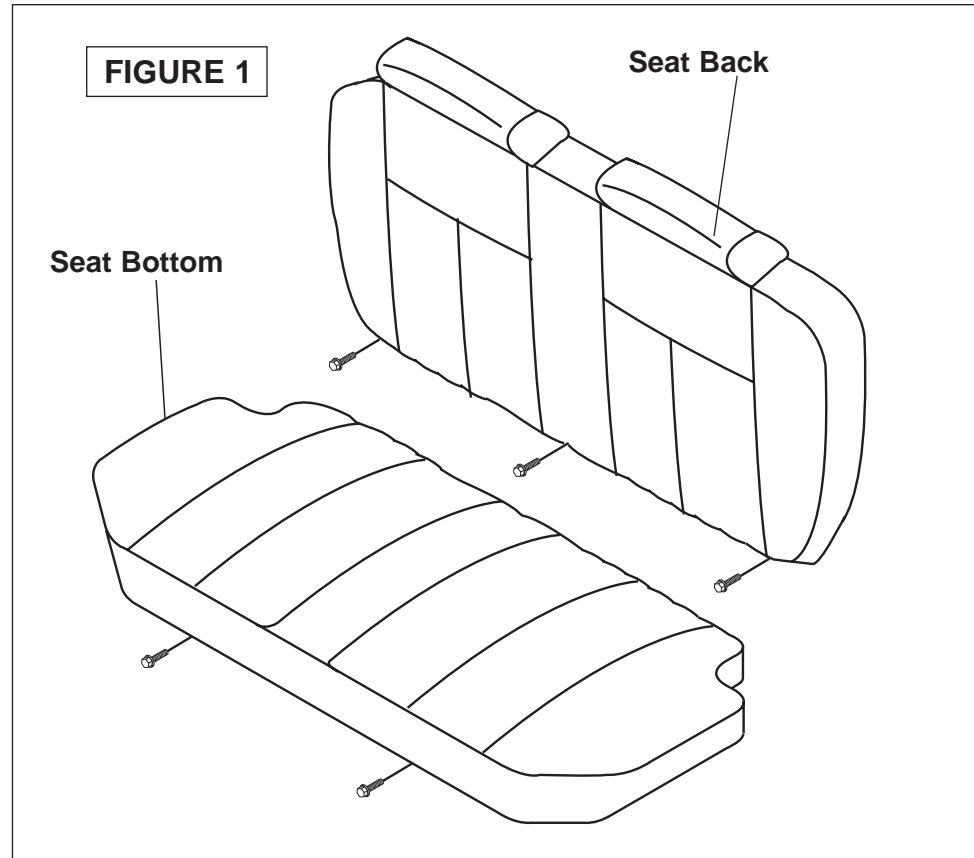
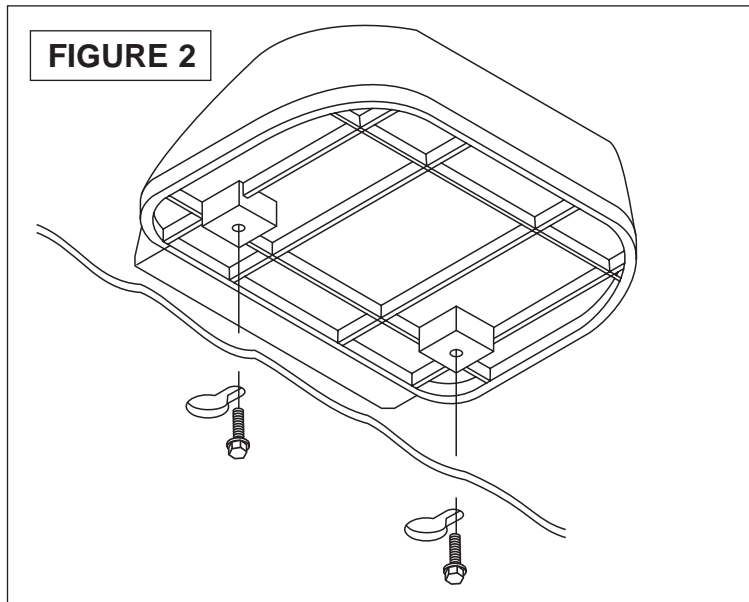

FIGURE 1
FIGURE 2
2. Remove **DIN sleeve** and **trim ring** from receiver if they are in place (Figure 1). **Note:** These parts will not be used in the ISO-DIN installation.
3. Secure pocket to factory brackets if not already in place. Align holes in sides of replacement receiver with holes in factory side brackets (Figure 2). Secure receiver to brackets using screws previously removed.
1. Remove two (2) 12mm bolts from below front edge of **seat bottom**. Press center of seat bottom downward to unhook from **seat back**. Remove seat bottom (Figure 1).
2. Remove three (3) 12mm bolts from bottom edge of seat back. Fold seats forward, if equipped with folding seats, and slide seat back upward to remove.
3. If equipped with third brake light: Loosen two (2) 10mm bolts from the bottom of rear deck. Slide **brake light assembly** away from window, disconnect and remove assembly (Figure 2).